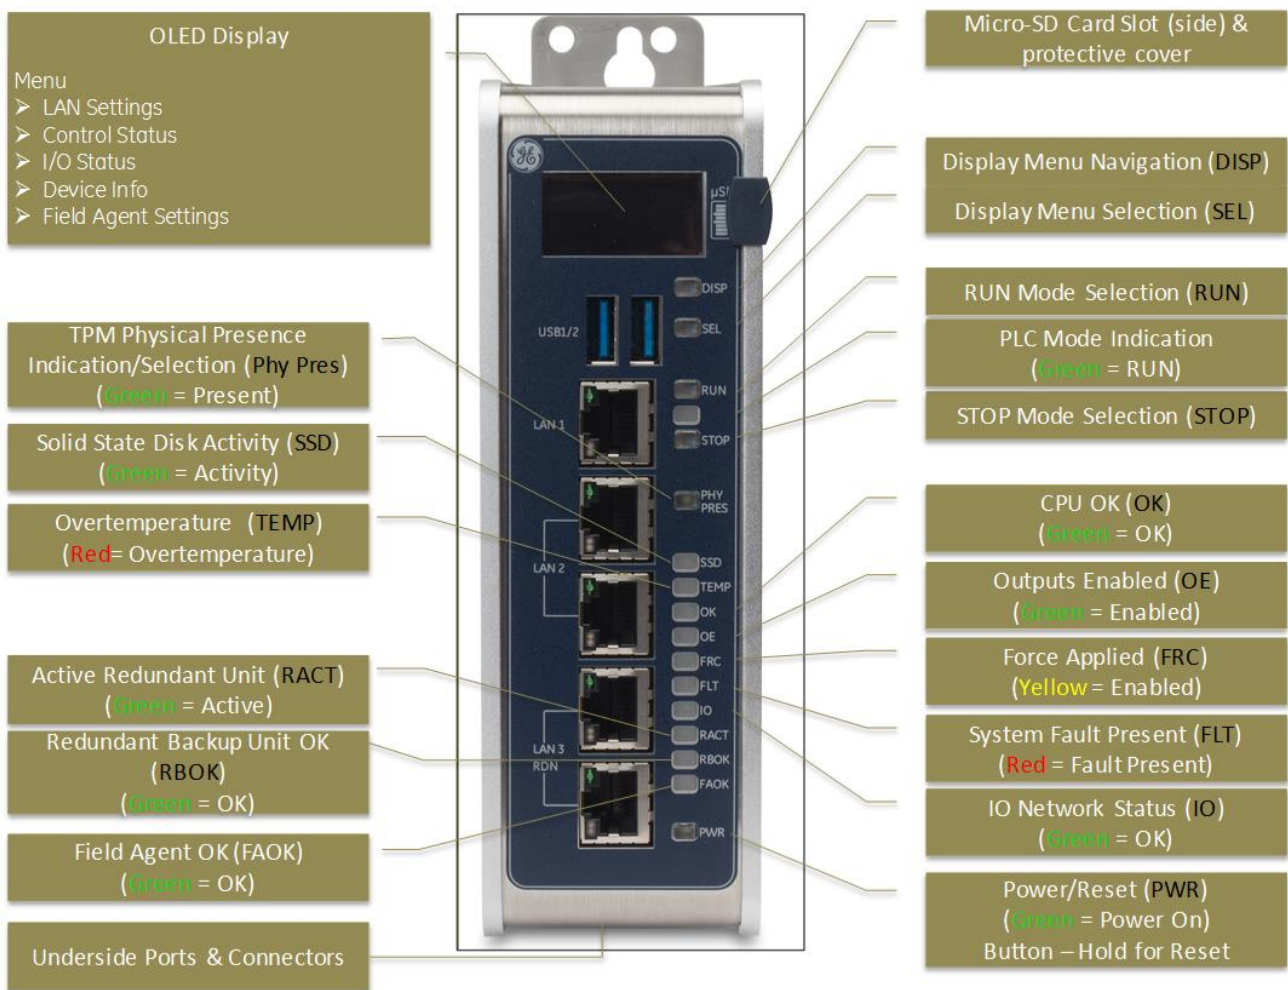

Figure 2: CPE400 Front View and Features
The physical features of the CPE400 are shown in Figure 2 and Figure 3.
- Supports four independent 10/100/1000 Ethernet LANs. Three are located on the front panel, as shown in Figure 2. LAN1 attaches via the upper, dedicated RJ45 connector. LAN2 and LAN334 each attach via a pair of internally-switched RJ45 connectors. The fourth LAN, labeled EFA (Embedded Field Agent), is an RJ45 port located on the underside (Figure 3), and is a dedicated Field Agent port.
The monochrome organic light-emitting diode (OLED) display (Figure 2) is used to display operating system menus. It measures 34.5 x 23 cm and displays 128 dots horizontally and 64 dots vertically. It interacts with the DISP pushbutton, which jogs the cursor from one menu item to the next, and with the SEL pushbutton, which activates the currently indicated menu item for further action.
The Micro SD Card slot is located on the right-hand side of the equipment (Figure 2), level with the OLED display. This port is not functional at time of publication. Once functional, it will support the Removable Data Storage Device features discussed in Section 2.1.8.
Two USB ports, using standard USB Type A connectors (Figure 2), are located on the faceplate below the OLED display.